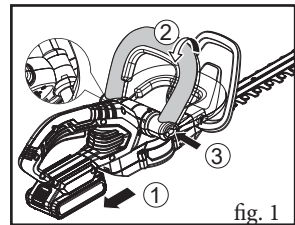

fig. 1
1. Front Handle assembly (fig. 1).